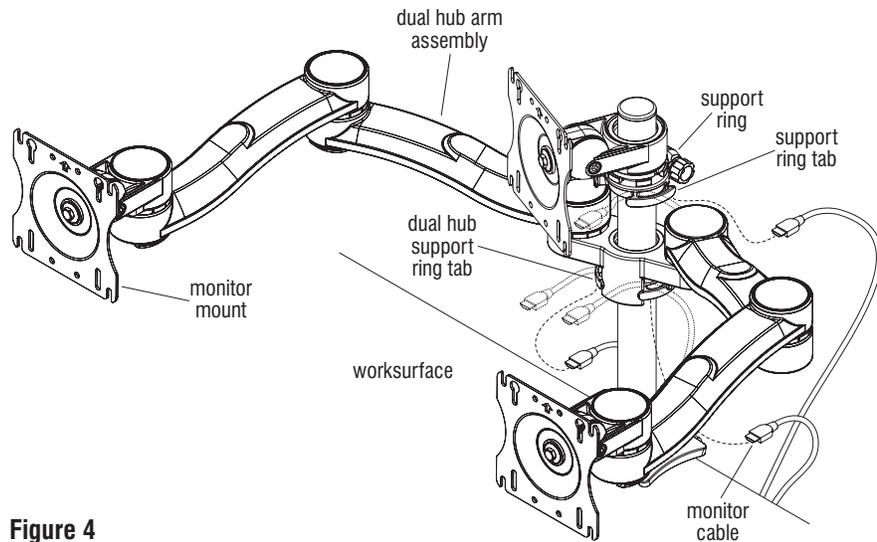
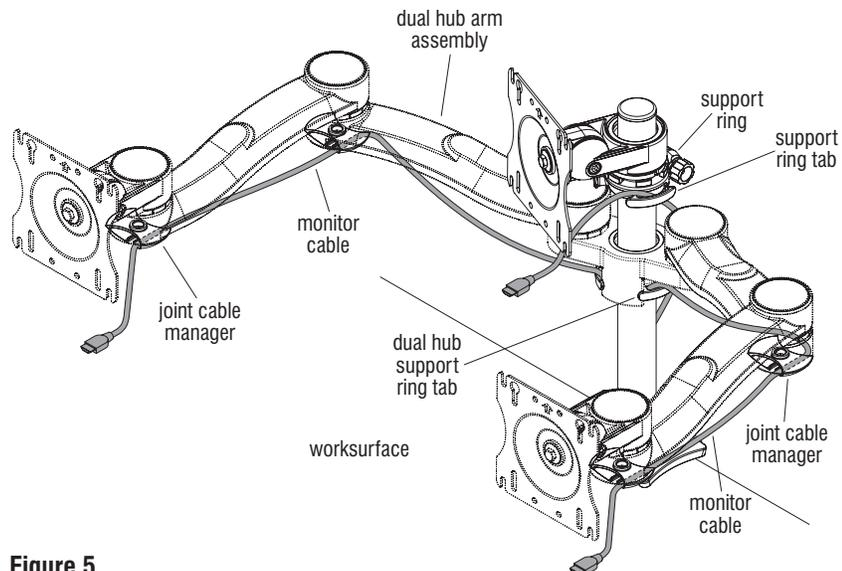

Figure 4
Figure 5
10. Insert monitor cables through the support ring tabs (Figure 4). Next, feed monitor cables through joint cable managers located on the underside of each dual hub arm assembly (Figure 5).